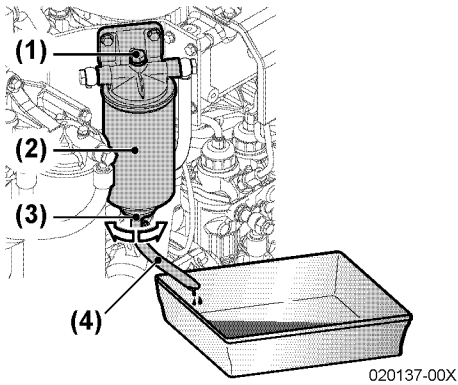

Figure 7
Note: If no water or fuel drains from the fuel / water separator (Figure 7, (2)), loosen the air bleed screw (Figure 7, (1)) on the fuel filter 2 to 3 times. This can occur when the fuel level is lower than the position of the fuel / water separator.
3. Attach a tube (Figure 7, (4)) to the drain plug (Figure 7, (3)).